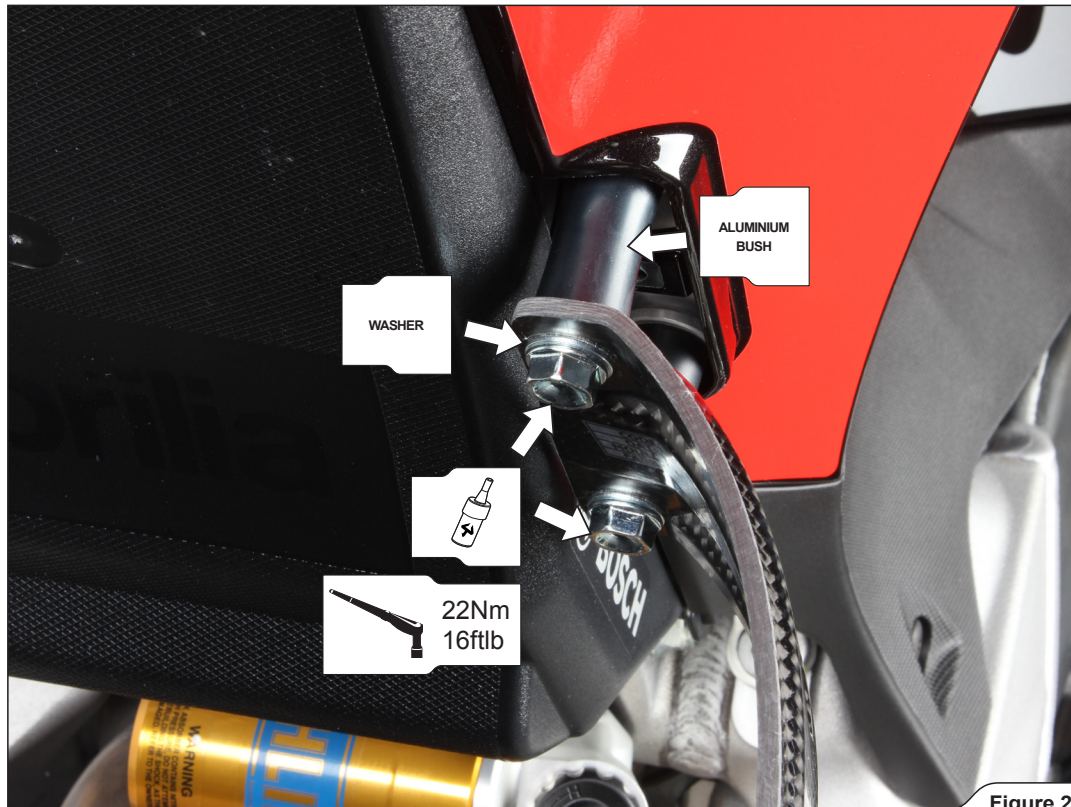

Figure 29
12. Install the Carbon Fiber Bracket onto the right side of the sub frame, using bolts, washers and Aluminium distance bushes from Akrapović installation kit (**Figure 29**).